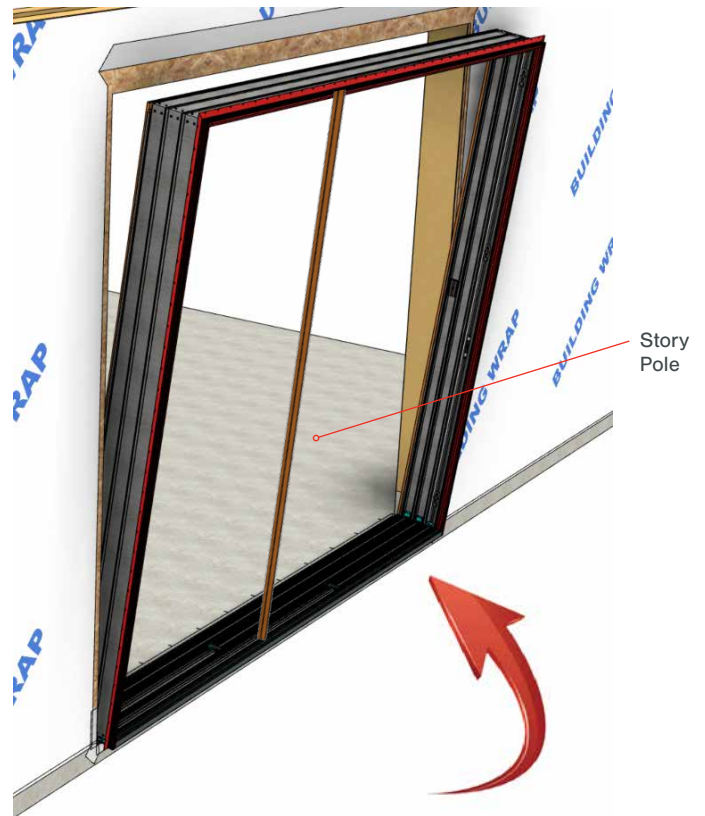

Fig 24
- Follow standard installation and squaring steps from Fig. 24 – 25, page 22.